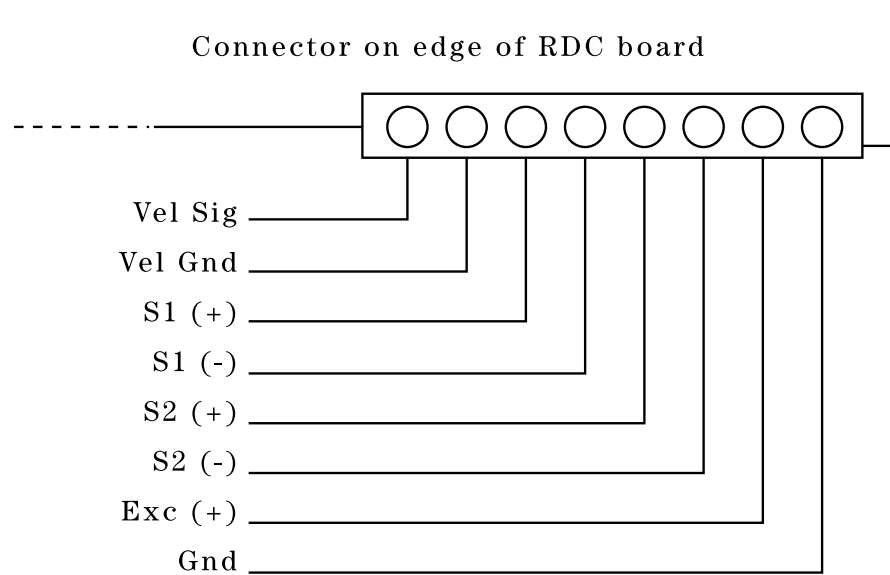

Figure 1: Intercept signals at RDC board
- Using the oscilloscope with AC input coupling, characterize the excitation that the RDC supplies to the primary of the resolver. See Fig. 1